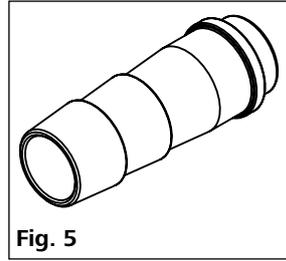

Fig. 5
- Hose olive DN 12 (2 pieces) see **Fig. 5**